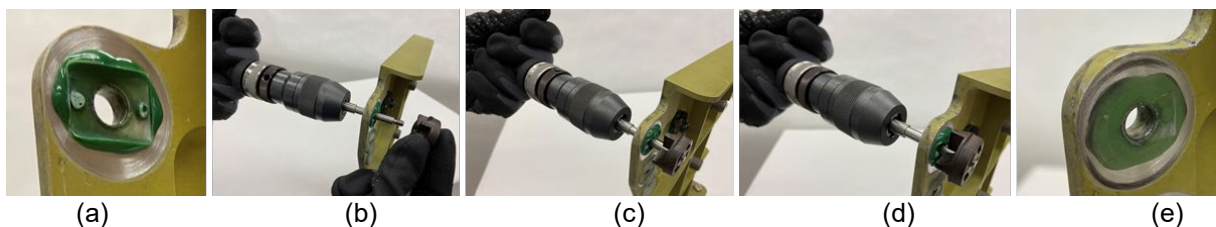

Figure 19. Removal of Bulk Adhesive/Sealant with Torlon Adhesive Cutters – T-Handle
3.1.5 Process for Removal of Bulk Sealant/Adhesive with Torlon Adhesive Cutters (T-handle) (Figure 18 and Figure 19)
- iii. Insert mandrel into structure, chucked (Fig 19(b)) or un-chucked
- iv. Attach the selected Torlon Adhesive Cutter to the end of the corresponding mandrel and hand tighten (Fig 19(b))
- viii. Ensure the cutting surfaces of the Torlon tool are facing the remnant materials on the structure (Fig 19(c))
- ix. Pull back on the T-handle and activate the ratcheting mechanism (Fig 19(d)). Check the structure surface frequently to ensure no damage is being done.
- x. Continue residual material removal until most of the remnant materials are removed (Fig 19(e)). A thin residual layer of adhesive may remain on the structure (i.e. a "ghosting layer").